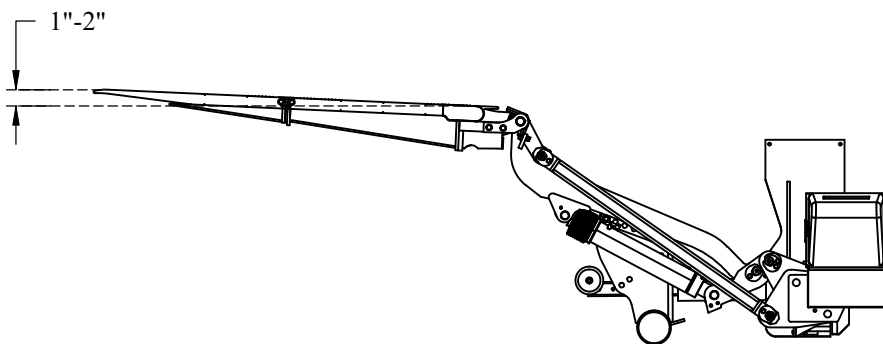
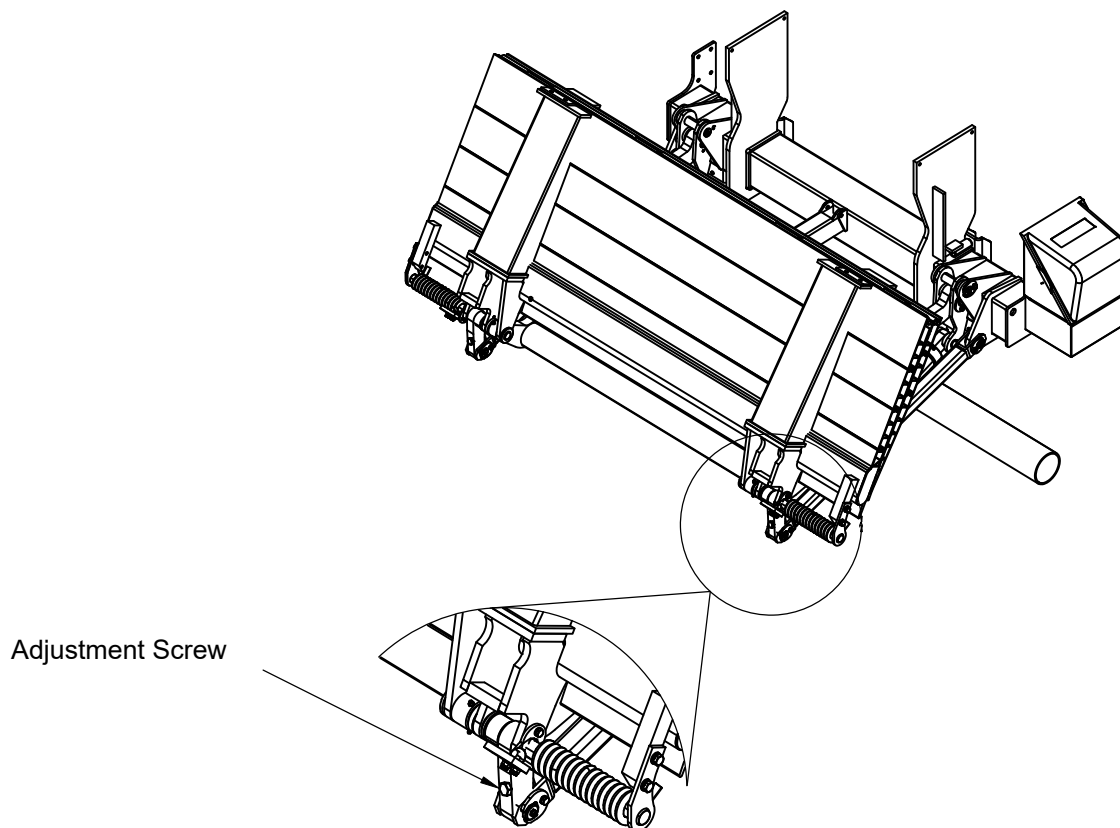

Figure 17: Platform Slope.
Figure 18: Adjustment Screw
16. **Adjust** the platform slope using the adjusting screws so the platform front edge stays 1"-2" higher than the rear of the platform (Figure 17). This allows for liftgate deflection when fully loaded. The screws must be adjusted, so they support the platform evenly (Figure 18).